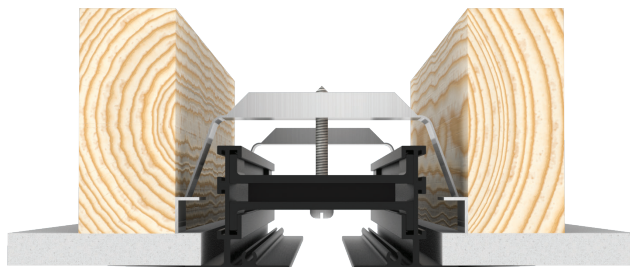
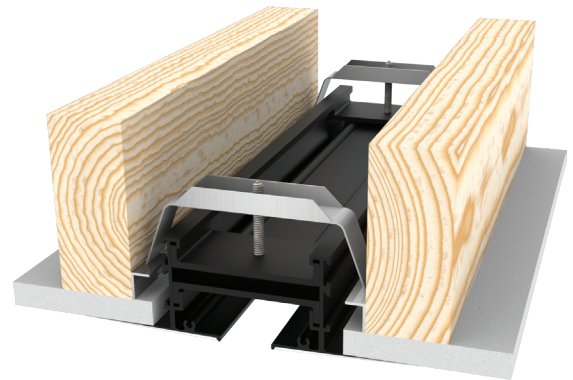

Figure 17 (Step 5A): Install Drywall – Exposed Face/Flange Border (A)
Figure 18 (Step 5A): Install Drywall – Tape and Spackle Border (C)
- A. Lastly, install sheetrock as shown in Figure 17. If one or both borders have a tape and spackle ("C") border, see Figure 18.